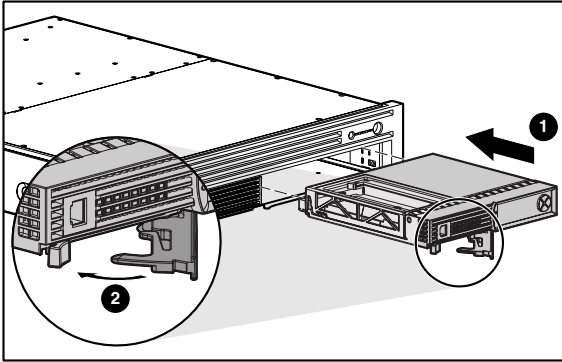

Figure 7: Installing the controller
2. Push the controller in as far as it will go ❶ and press the latch inward until it is flush against the front panel ❷ as shown in Figure 7.